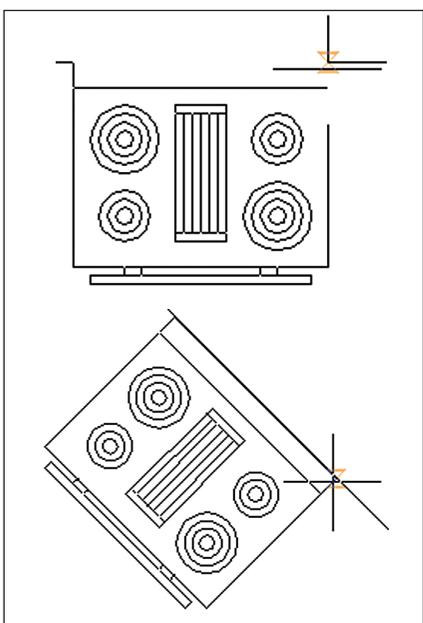

Figure 10. Align dynamic blocks with the geometry of each placement.
- Dynamic blocks can automatically align with existing geometry (Figure 10).